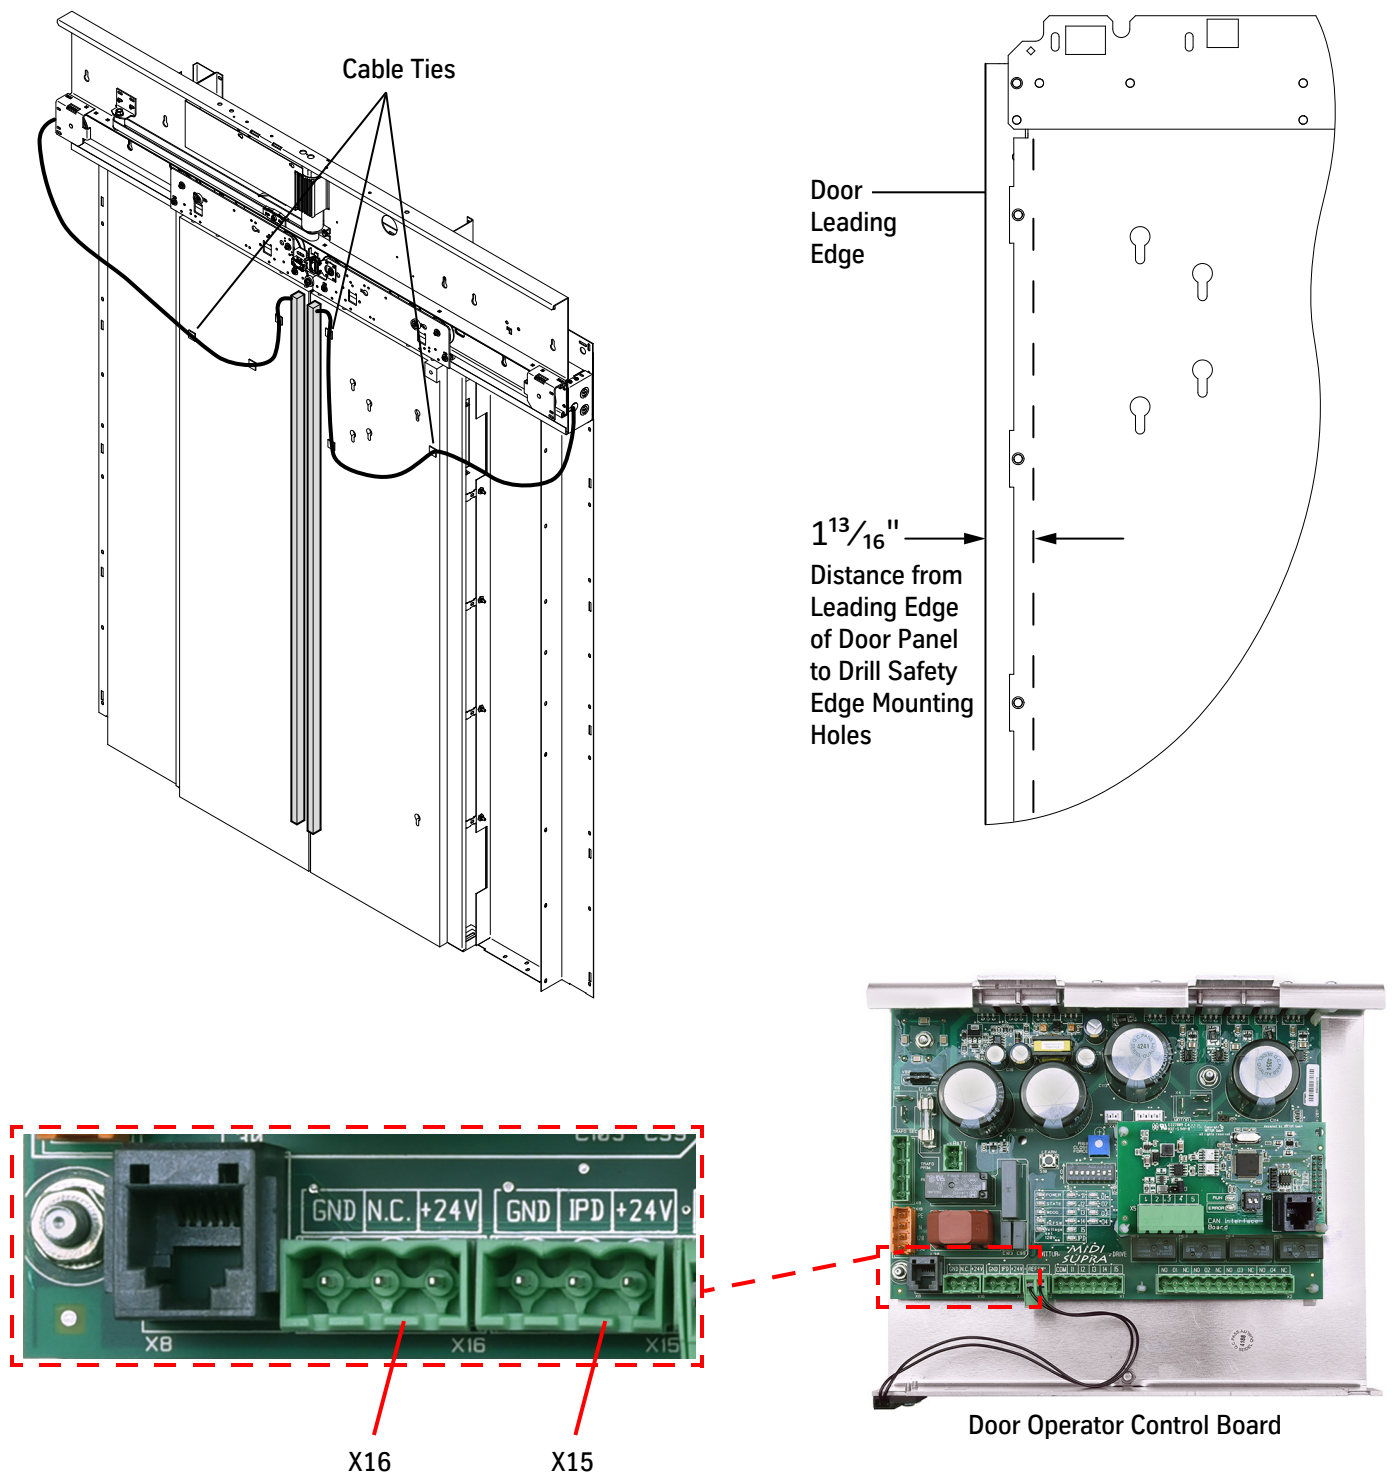

Figure 53 - Install Electronic Edge
2. Route cables—avoid tight bends and sharp edges—from the electronic edge to the ends of the door track, and secure with cable ties. See Figure 53 on page 63.